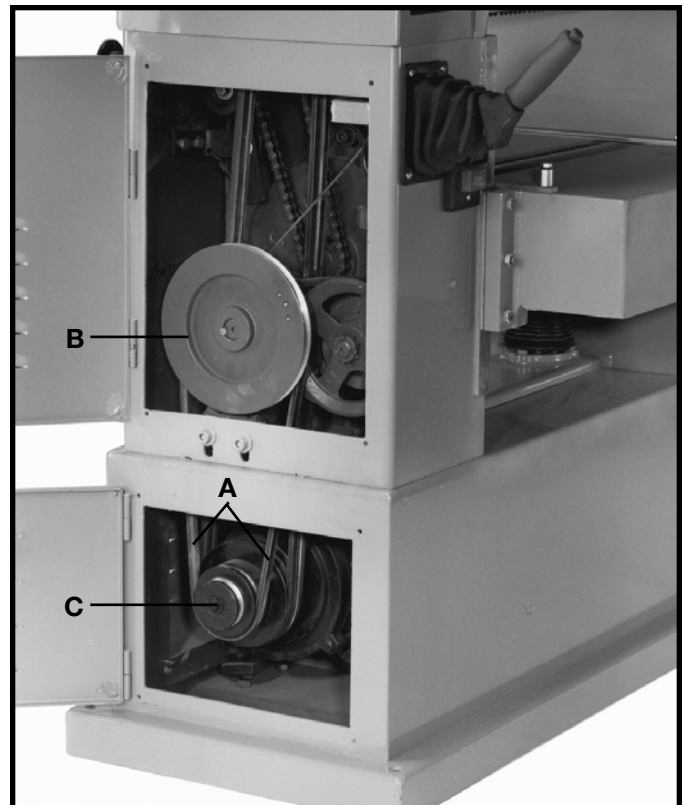

Fig. 30
Proper tension on the feed roller belt is obtained when there is approximately 1/2" deflection, using light finger pressure on feed roller belt (A) Fig. 30. midway between pulleys (B) and (C), with feed roller lever (D) engaged. If an adjustment is necessary, proceed as follows:
2. Engage feed roller lever (D) Fig. 30.